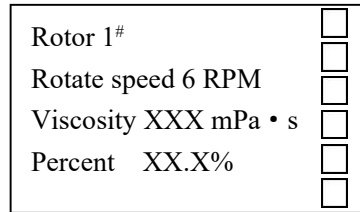
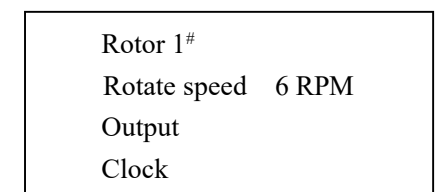

Figure 7
Figure 6
(Figure 6), press  or , select rotate speed, the instrument has five rotate speeds: 6 rpm, 30 rpm, 60 rpm and auto mode. After setting rotor and rotate speed, press OK, the rotor begins to rotate, and the instrument begins to measure, screen shown in figure 7
In figure 7, the rotate speed unit is RPM, and the viscosity unit is mPa · s; the vertical bar on right side displays the sampling process; percent: measures the viscosity of the percent of the full scale.
- v. In figure 6, move the cursor to output mode, press  or  to select communication state or print state.
- vi. In figure 6, move the cursor to clock mode, press  or  to select display mode or amendment mode, if you choose the display mode, current time can be displayed; if you choose the amendment mode, you can amend time and date.
Press  or  to select language mode you need, press OK to set, press OK to enter, screen shown in figure 6: